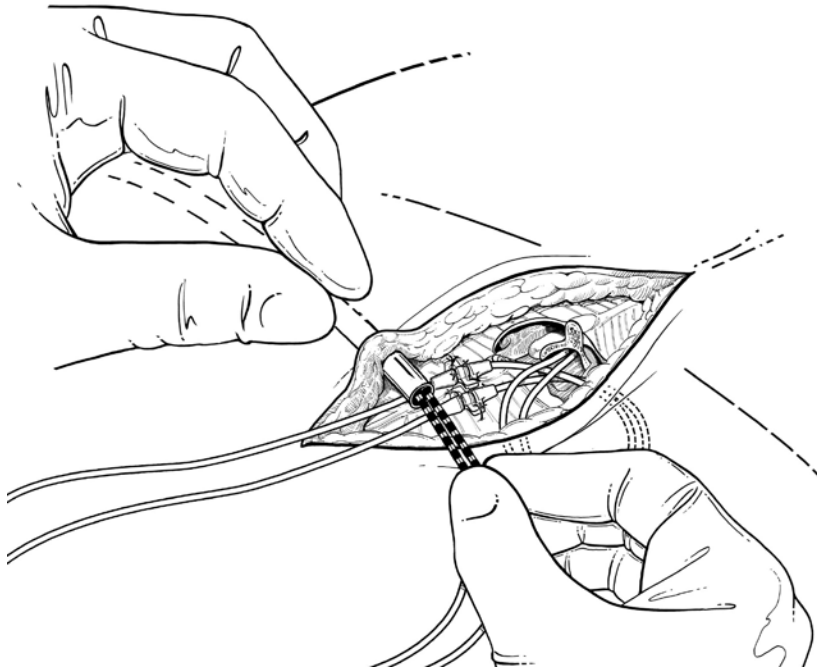

FIGURE 44
- 7 Gently insert the proximal (neurostimulator) end of both lead bodies through the passer until they exit at the handle or until fully encompassed by the extension passer (FIGURE 44).